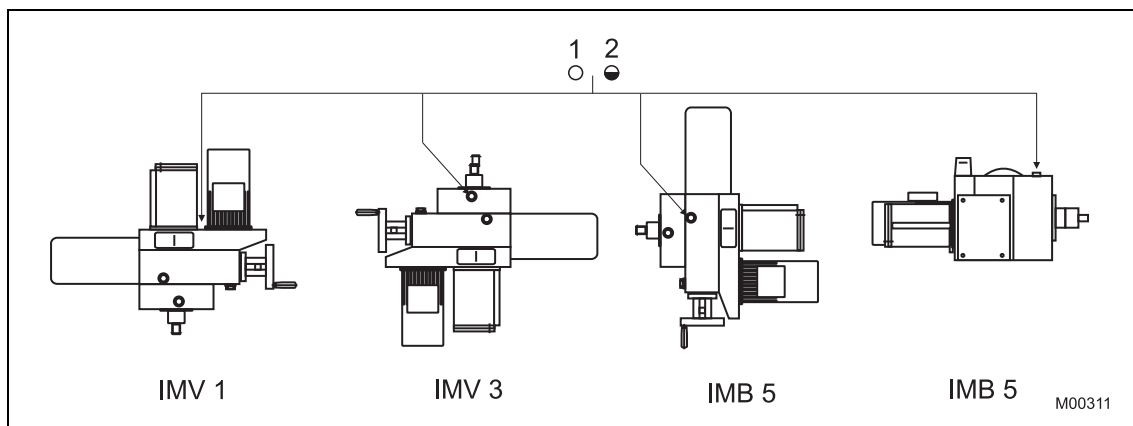
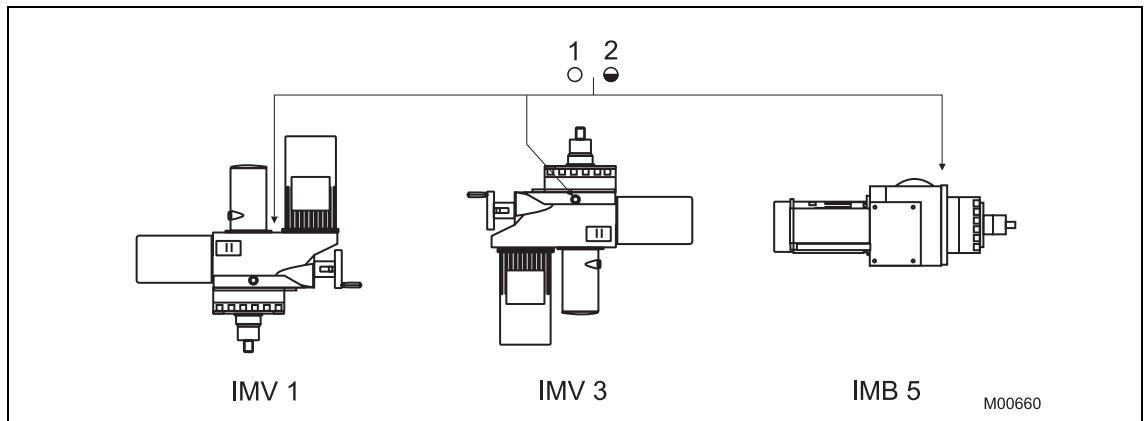

Fig. 6: Mounting orientations RSD10 / RSD20
Fig. 7: Mounting orientations RSD50 / RSD100
- Check the oil level when installing the device in any position other than IMV 1 (refer to Fig. 6 and Fig. 7).
- Fasten the vent valve in the uppermost bore, depending on the actuator's mounting orientation (refer to Fig. 6 and Fig. 7).
All mounting orientations shown in Fig. 6 and fig. Fig. 7 are permissible. To facilitate mounting and maintenance, however, it is recommended to use orientation IMV 1. For each mounting position, check the oil level prior to commissioning.